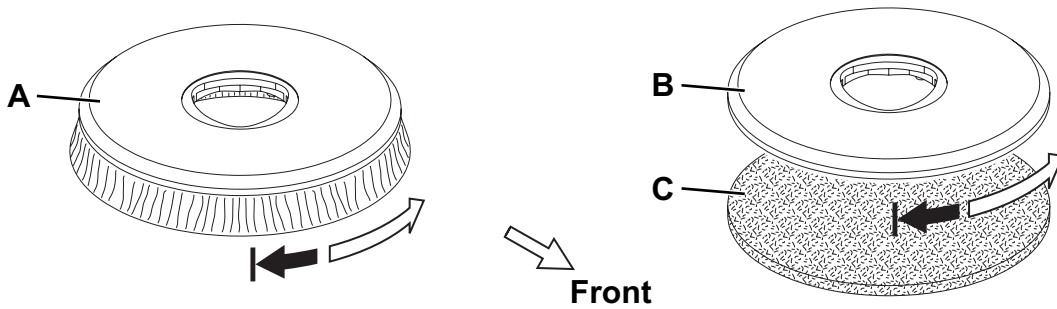

Figure 3
Install either the brush (A, Fig. 3) or the pad-holder (B and C) according to the type of floor to be cleaned.
2. Lift the brush/pad-holder deck (13) by prying the handlebar (2).
3. Place the brush (A, Fig. 3) or the pad-holder (B - C) under the deck.
4. Lower the deck (13) by using the handlebar (2).
5. Turn on the machine by pressing the switch (41).
6. Press the push-buttons (47) for a few seconds, to engage the brush/pad-holder to the deck hub (13). If necessary, repeat the procedure until the brush/pad-holder is engaged.